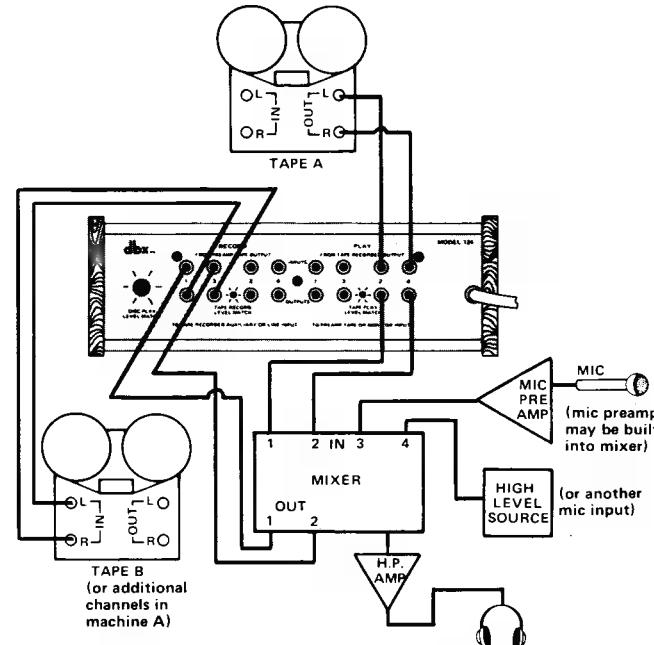

Fig. 16 – Connections for Overdubbing with the 12
1. For overdubbing, connect your system as shown in Figure 16.